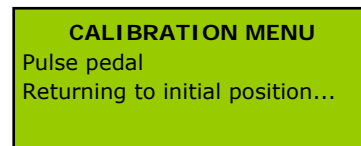

Figure 17
- Accomplishment of a 360° backward rotation to go back to Zero degrees position. The information on Figure 17 will be then displayed.